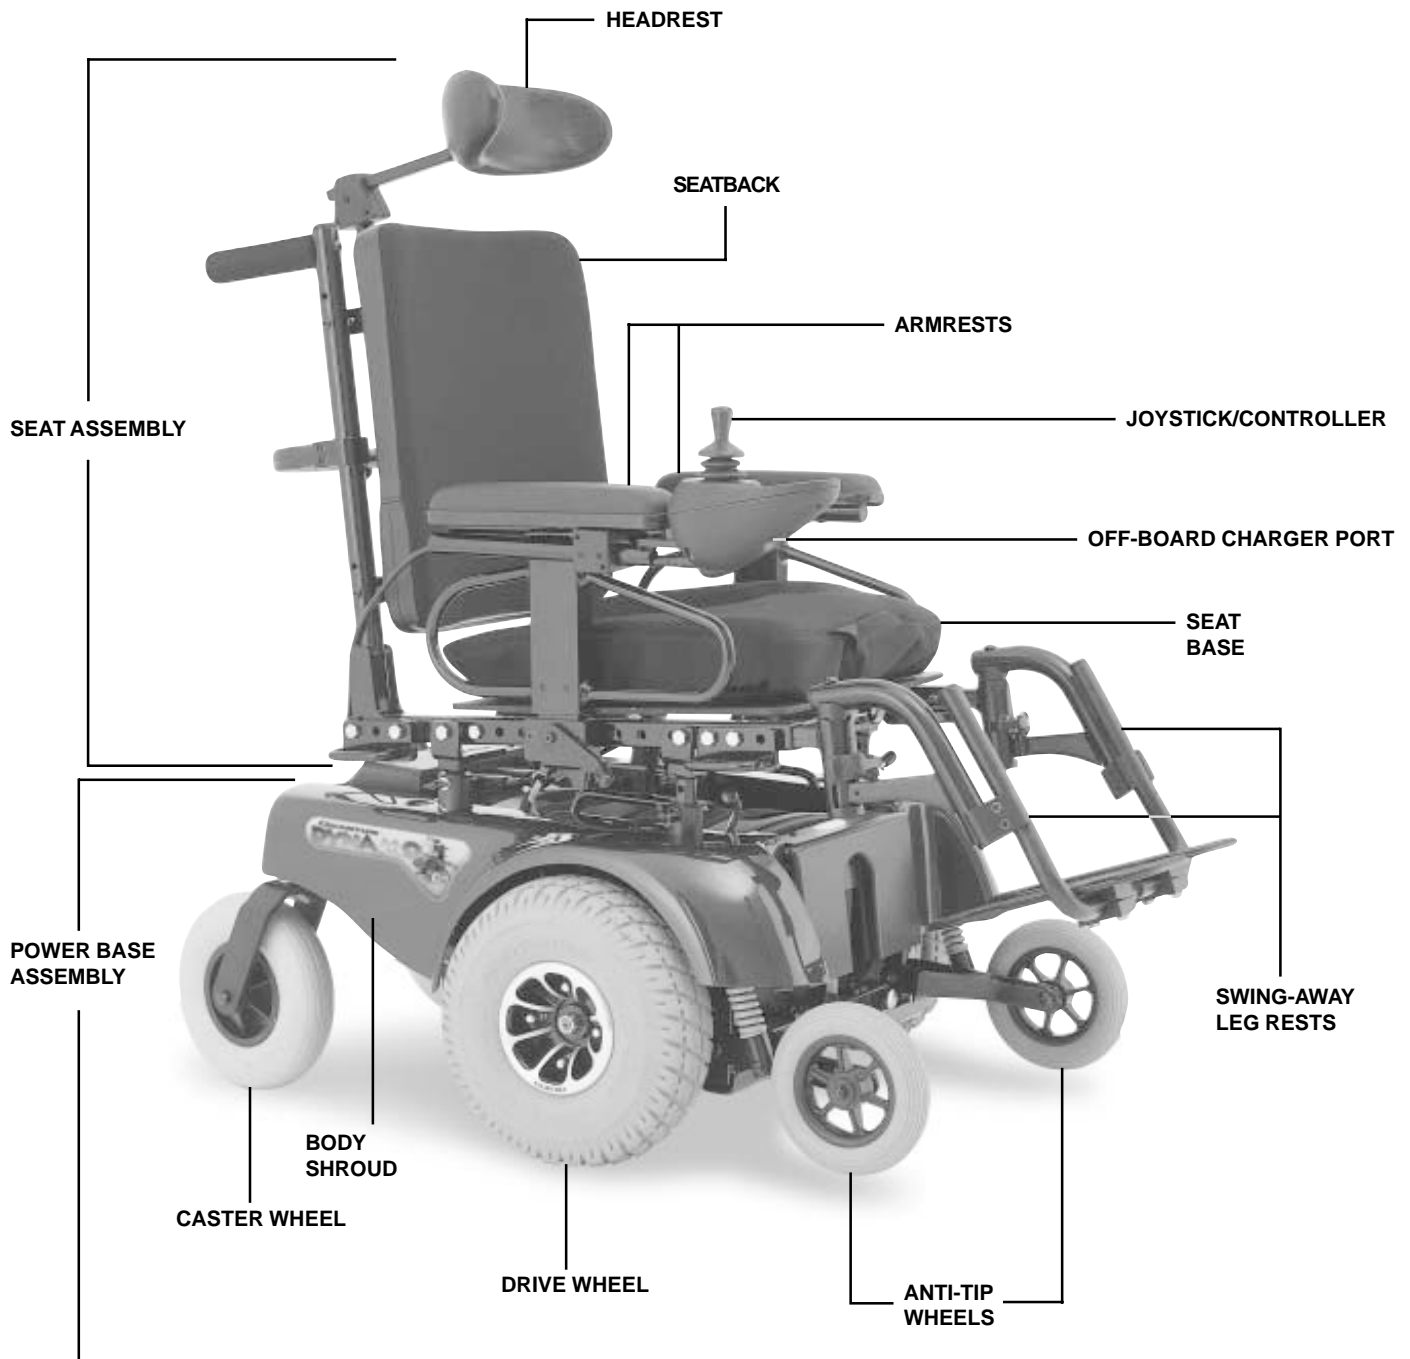

Figure 2. Your Quantum Dynamo ATS
Your power chair has two main assemblies: the seat and the power base. See figure 2. There are several seating options available with your power chair. Typically, the seating system includes the armrests, the seatback, the seat base, and the joystick/controller. The power base is the heart of your Quantum Dynamo ATS. The power base assembly includes two drive wheels, two anti-tip wheels, two rear caster wheels, a body shroud, four frame assemblies (located under the body shroud), two battery boxes, and the electrical connectors. See figures 2, 3, and 4.
- **Joystick/Controller:** This device is used to move the power chair. See figure 2.
- **Armrests:** These provide a comfortable place to rest your arms during time spent on your power chair. See figure 2.
- **Body Shroud:** These are the plastic pieces that cover the power base. See figure 2.
- **Swing-away Leg Rests:** This is where your feet rest during time spent on your power chair. See figure 2.
- **Anti-Tip Wheels:** These are wheels that allow “slight” or “no” tip while driving. They also allow for 2-in. curb climbing abilities. See figure 2.
- **Drive Wheels:** These are the main wheels that move the power chair. See figure 2.
- **Rear Caster Wheels:** These are the trailing wheels that provide stability. See figure 2.